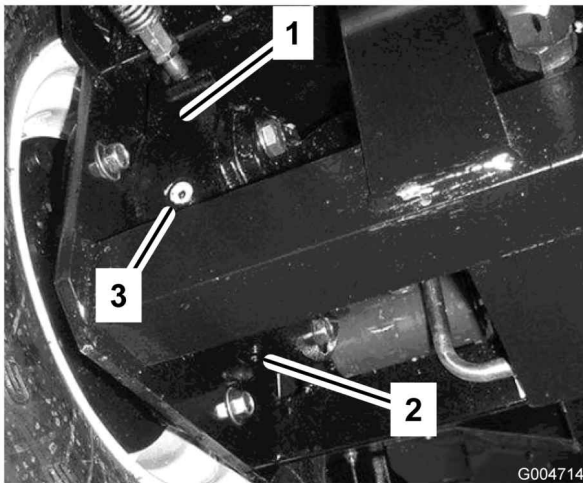

Figure 58
- Place a drain pan under the brake housing on the other side of the wheel (Figure 58).
- Remove check plug from brake housing (Figure 58).